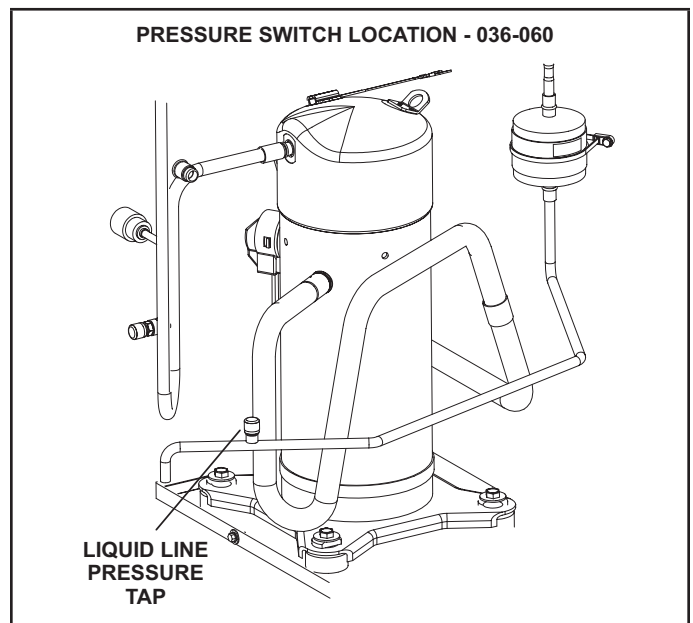

FIGURE 1
- 2 - Install valve depressor tee on liquid line pressure tap. See FIGURE 1. Install pressure switch on pressure tap.